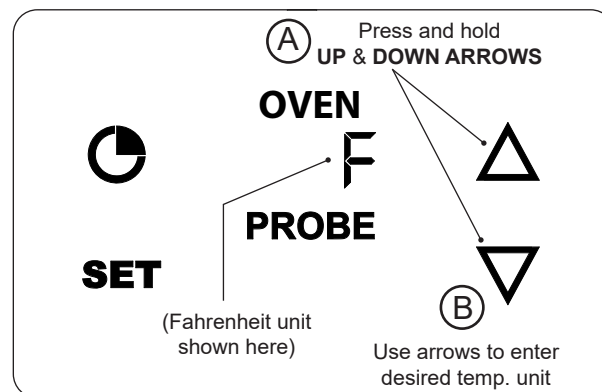

Fig. 41-3 Change temp. unit
1. Press and hold the **UP** and **DOWN** arrows until °F or °C is displayed (Fig. 41-3, A).
2. Press the **UP** or **DOWN** arrow to select the desired temp unit (Fig. 41-3, B).